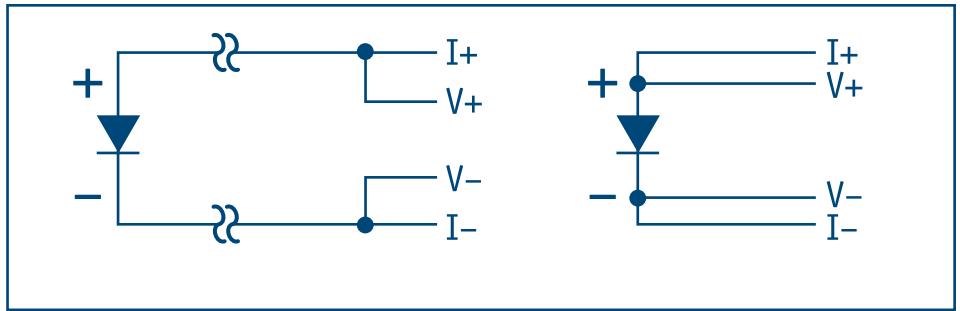

Figure 3 – 2-Lead versus 4-Lead Measurements
**2-lead measurement scheme** – The leads used to measure the voltage are also the current carrying leads. The resulting voltage measured at the instrument is the sum of the temperature sensor voltage and the voltage drop across the 2 leads (see Figure 3).
**4-lead measurement scheme** – The current is confined to one pair of current leads with the sensor voltage measured across the voltage leads (see Figure 3).
- Strip the insulation from the connecting wires by scraping delicately with a razor blade, fine sand paper, or steel wool. Phosphor bronze or manganin wire, in sizes 32 or 36 AWG, is commonly used as the connecting lead wire. These wires have low thermal conductivity and high resistivity, which help minimize the heat flow through the leads. Typical wire insulation is polyvinyl formal (Formvar®) or polyimide (ML). Formvar® insulation has better mechanical properties such as abrasion resistance and flexibility. Polyimide insulation has better resistance to chemical solvents, heat, and radiation.
The leads used to measure the voltage are also the current carrying leads. The resulting voltage measured at the instrument is the sum of the temperature sensor voltage and the voltage drop within the two current leads (see Figure 3).
The current is confined to one pair of current leads with the sensor voltage measured across the voltage leads (see Figure 3).